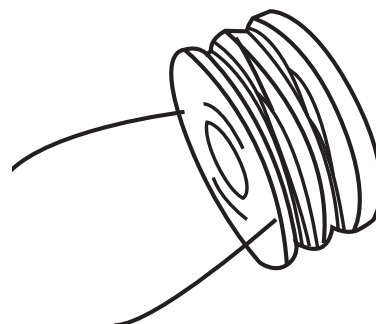

Fig. 30
6. Follow the steps from back to front to install a new one (Fig. 30).